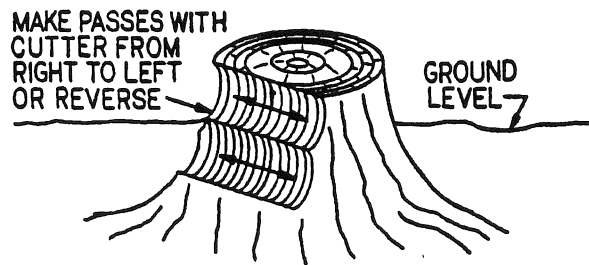

fig. 19A
7. Start to cut the stump at the extreme left (rear position) or extreme right (front position). Swing the cutter head across the stump, cutting approximately 2" of wood at each pass. As you become more familiar with your machine, you will be able to cut left to right and right to left. The hardness of the wood and the sharpness of the teeth will dictate how deep and how fast you cut (Figure 19A).